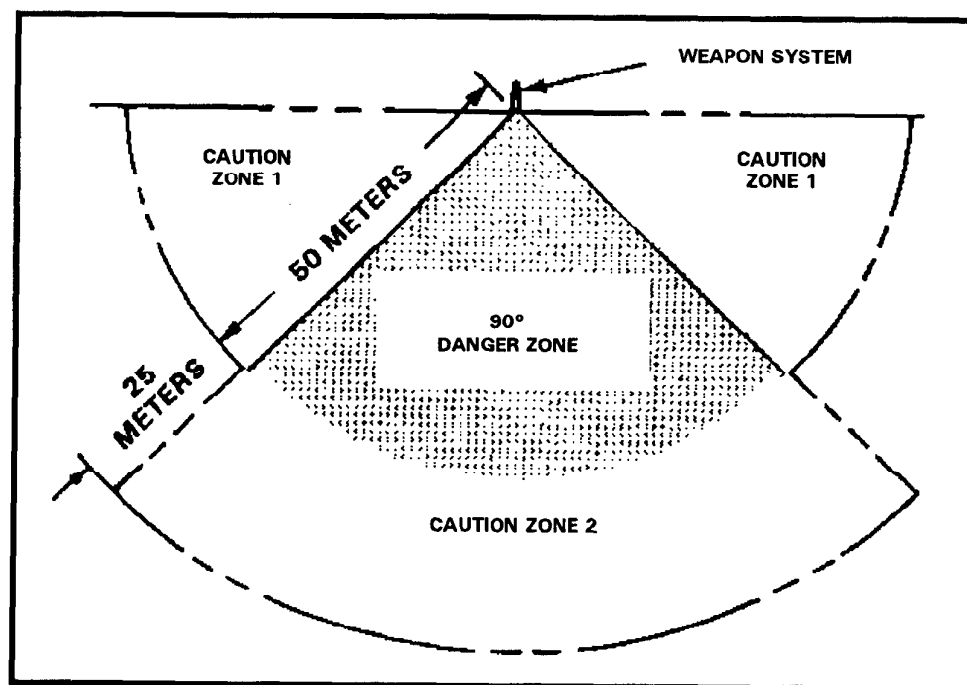

Figure B-1. MILES TOW backblast area.
b. Before pulling the PULL-TO-ARM switch, always check to ensure there are no personnel in the ATWESS danger zone. This zone extends for 75 meters behind the ATWESS firing chamber and covers an arc 90 degrees wide (Figure B-1, page B-4).